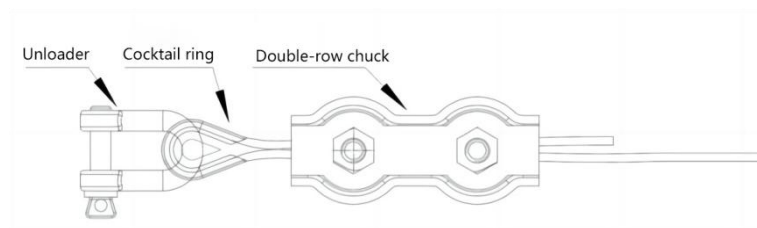
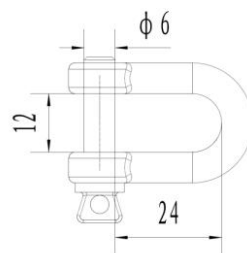

Figure 4.3-3
Figure 4.3-4
(3) The front end of the length sensor measuring line has been provided for fixing the measuring line front end fixing assembly, which consists of three parts: unloading buckle, chicken heart ring, and double-row chuck, as shown in Figure 4.3-3. The dimensions of the shackle used are shown in Figure 4.3-4.